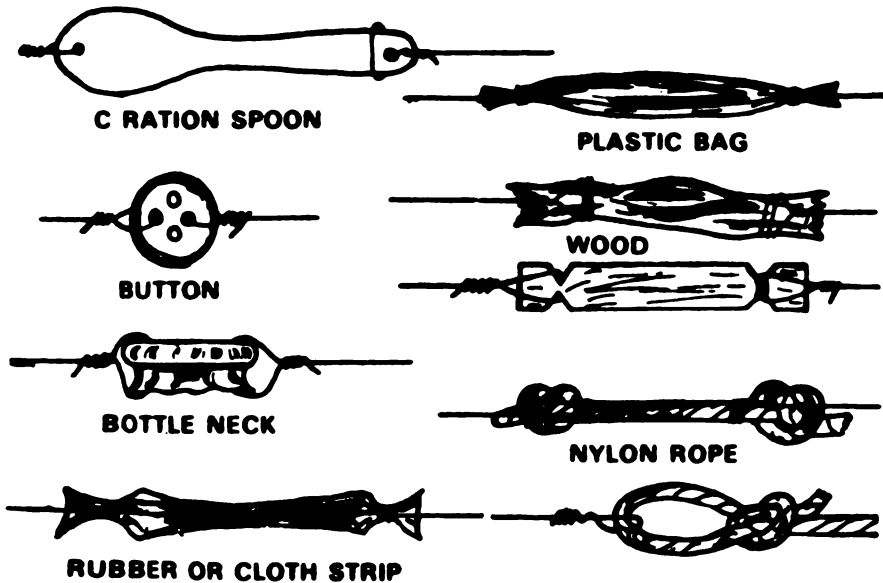

Figure 1. Expedient insulators
1. Insulation. Insulate the antenna from its supports or from the ground. Although glass and porcelain may be the best materials for insulators, other possible expedients are shown in figure 1.